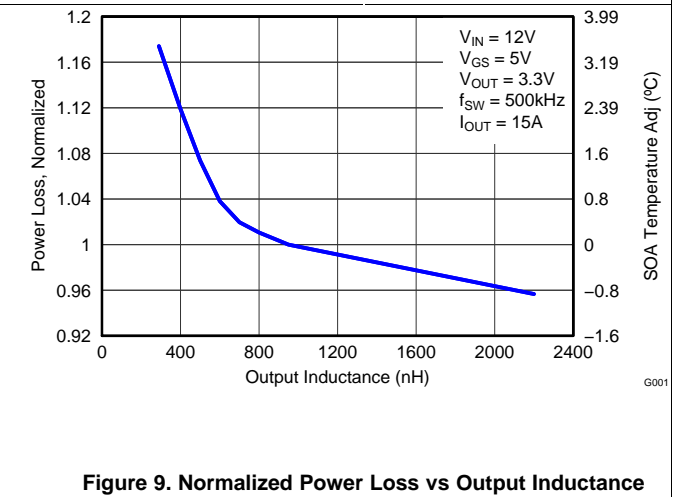

Figure 9. Normalized Power Loss vs Output Inductance
The Typical Power Block System Characteristic curves (Figure 1 through Figure 9) are based on measurements made on a PCB design with dimensions of 4.0-inch (W) × 3.5-inch (L) × 0.062-inch (H) and 6 copper layers of 1 oz. copper thickness. See Applications for detailed explanation. $T_A = 125^\circ\text{C}$, unless stated otherwise.
- Normalized Power Loss for output inductor ≈ 1.03 (Figure 9)
- SOA adjustment for output inductor $\approx 0.8^\circ\text{C}$ (Figure 9)